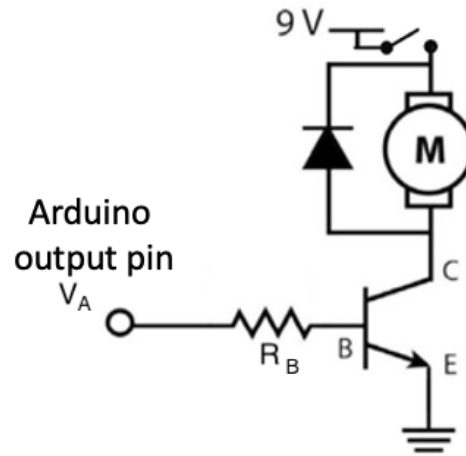
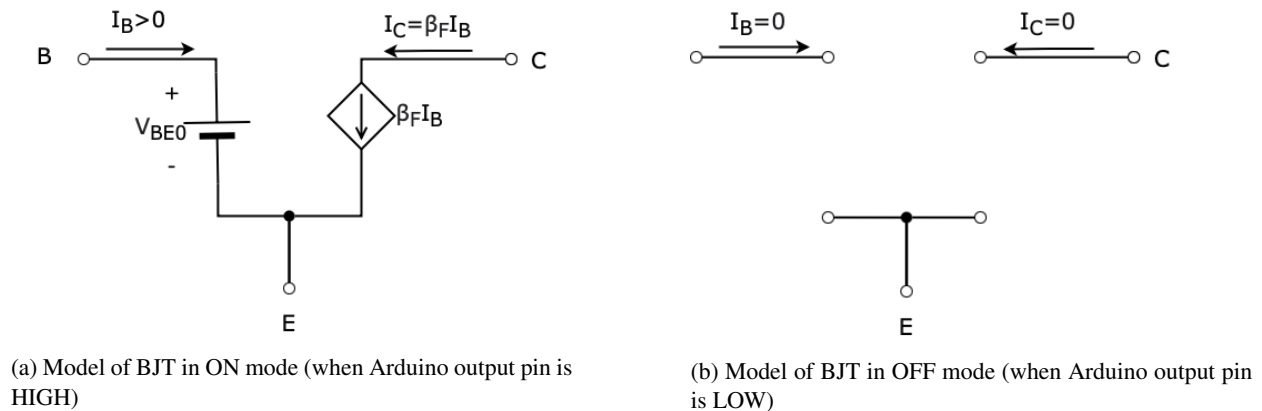

Figure 3: Motor Controller Circuits
Figure 4: Model of NPN BJT in Different Modes
BJT in Figure 3 is switching between **ON** and **OFF** modes when the output voltage from Arduino V_A is HIGH (5V) and LOW (0V) respectively. The model for both ON and OFF states are shown in Figure 4. When the BJT turns on, V_{BE} can be modeled as a fixed voltage source with voltage value V_{BE0} which is usually between 0.6V and 0.8V. For NPN BJT in TinkerCad, the value of V_{BE0} is approximately 0.8V in ON mode. In ON mode, there is a **Current Control Current Source** modeled between “Collector(C)” and “Emitter(E)”, i.e., current at the “Collector (C)” is an amplified version of current at the “Base (B)” (notice that I_B has to flow into the “Base(B)” for the relation $I_C = \beta_F I_B$ to hold.) β_F is called the **Common-Emitter Current Gain**, e.g. β_F is around 100 to 200 in our circuits. When the Arduino output pin V_A is HIGH (5V), the voltage across the resistor R_B in Figure 3 is $V_{HIGH} - V_{BE0}$. So we can calculate the current flowing into the “Base (B)”, I_B , and the current flowing into the “Collector (C)”, I_C , as
From Equation (1) and (2), we know that the resistor in the motor controller circuit (Figure 3) is used for defining the current flowing through the Arduino output pin, BJT, and motor. Therefore, we should carefully choose the value of the resistor considering the maximum current that BJT and Arduino pin can handle and the current required to drive the motor. As you will see in the lab, we can also control the rotation speed of the motor by alternating the resistor value. As we increase the value of the resistor, the current flow through the motor decreases which slows down the motor rotation.